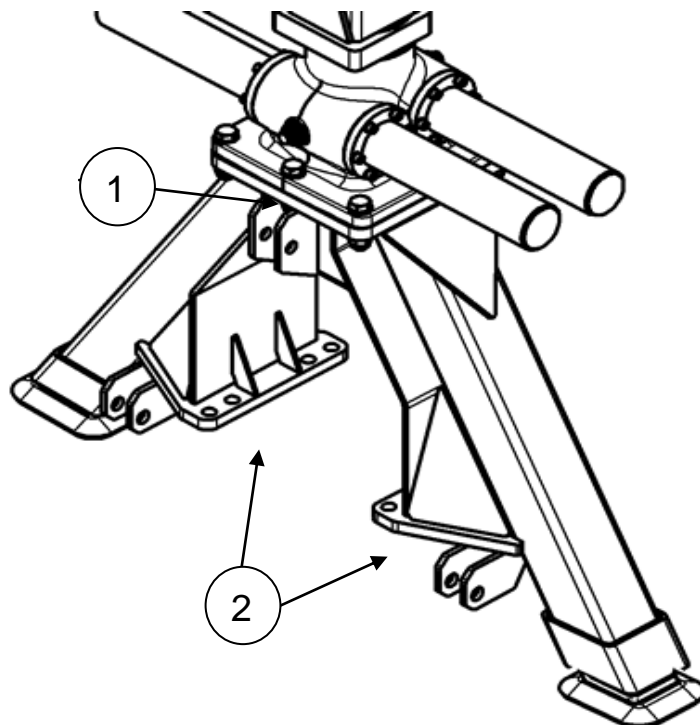

Figure 5. Connection junctions on Palms 695 A-type support legs (B3)
Mounting of forest crane should be performed at the dealer service center or by person authorized by the manufacturer or dealer. Mounting/detaching the crane can also be made by end user, if professional equipment is used, all safety regulations are followed and at least one qualified mechanic is present during all the mounting/detaching process. Strength class for mounting bolts of slewing device-support legs (pos. 1, fig.5) and support legs-trailer (pos. 2, fig. 5) has to be 12.9 (DIN912). Use self-locking nuts M24. The tightening torque for the mounting bolts of the crane (pos. 1, fig. 5) and supporting legs (pos. 2, fig. 5) is 1220 Nm.